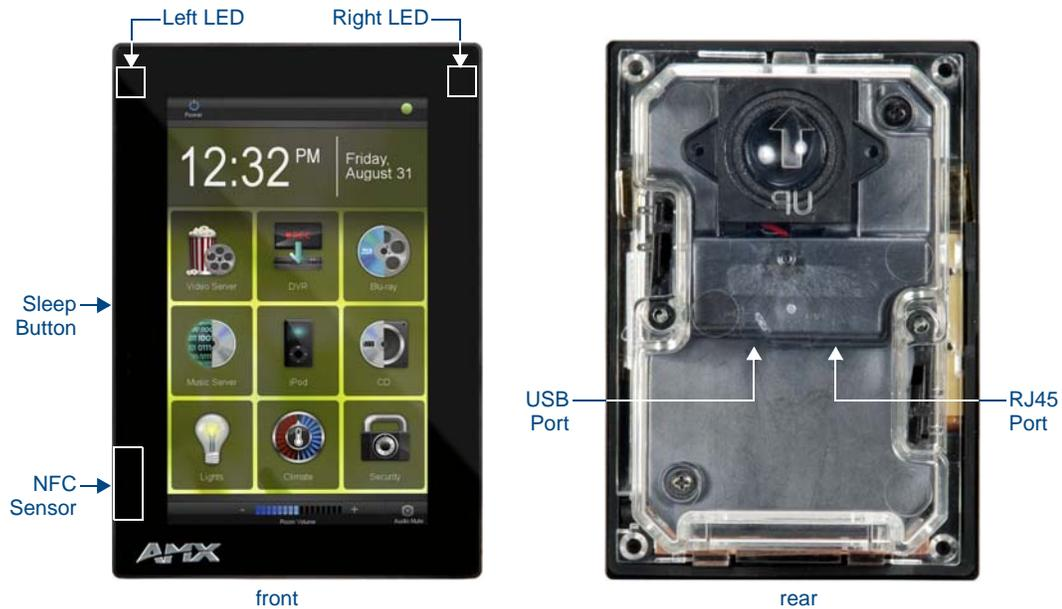

FIG. 40 MXD-430
Power for the MXD-430 is supplied via Power Over Ethernet (PoE), utilizing an AMX-certified, capacitive touch-compliant PoE injector or other approved AMX PoE power source. The incoming PoE Ethernet cable should be connected to the RJ45 port on the MXD-430 (FIG. 40).
9. Insert each connector into its corresponding location along the back of the device (FIG. 40).